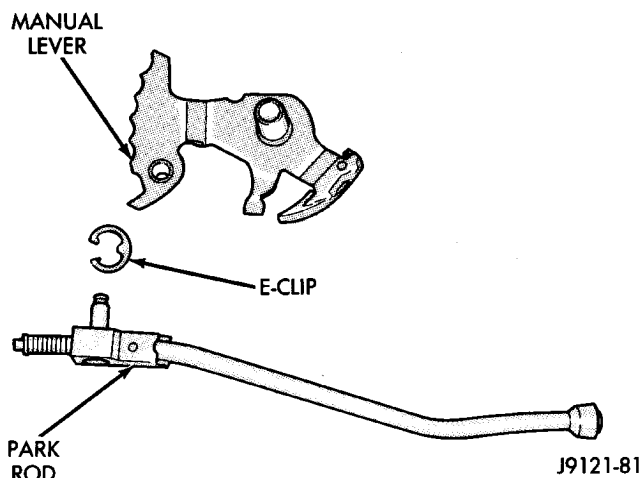

Fig. 48 Park Rod
(15) Remove park rod E-clip and separate rod from manual lever (Fig. 48).